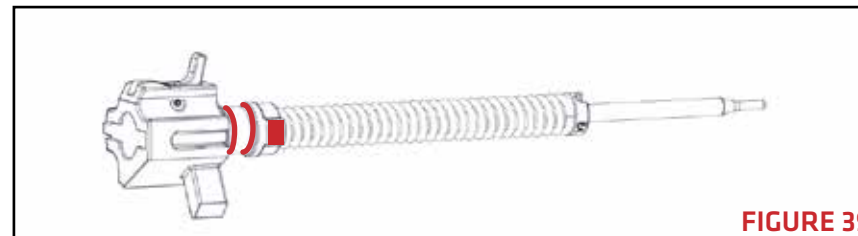

FIGURE 39
8. With the firing pin assembly removed, lubricate the critical surfaces highlighted in red (**FIGURE 39**) using TW25b Grease.